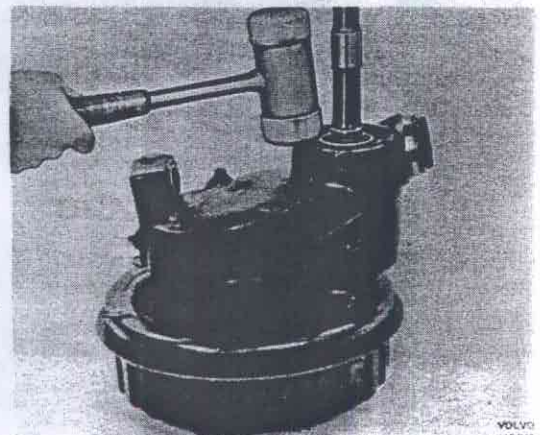

Fig. 46-81. Removing the drive shaft
3. Lift the drive shaft and knock on the wheel carrier housing with a plastic mallet at the same time, Fig. 46-81.